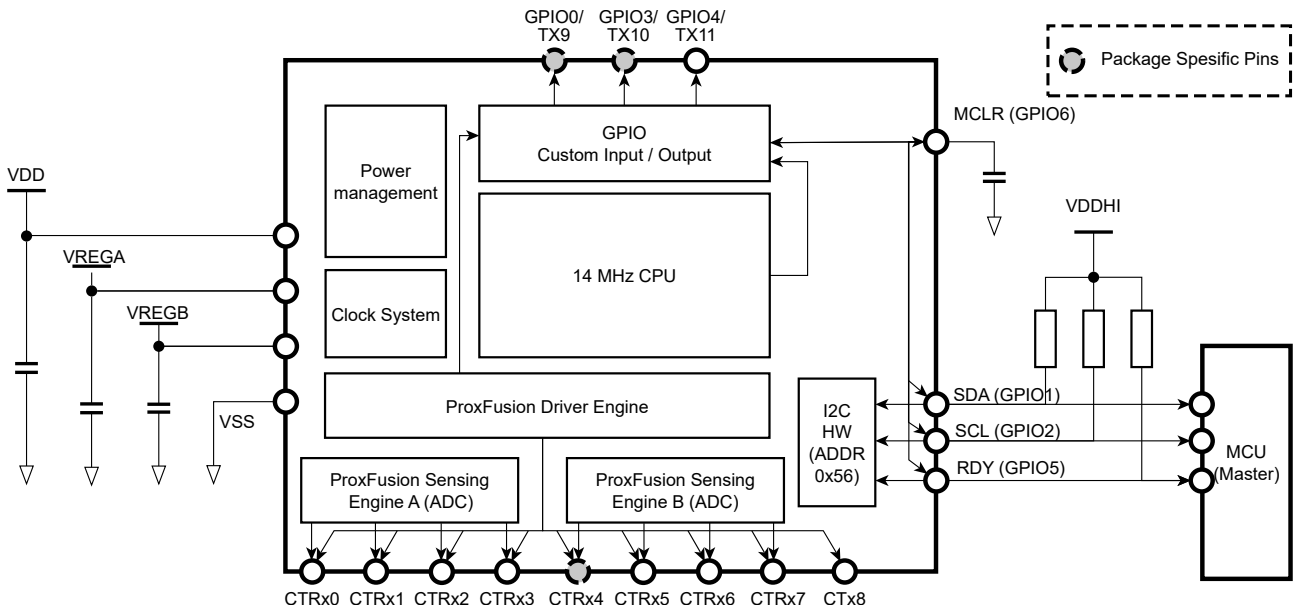

Figure 1.1: Functional Block Diagram1
- Each channel can pair multiple sensor connections. (see Figure 1.1).